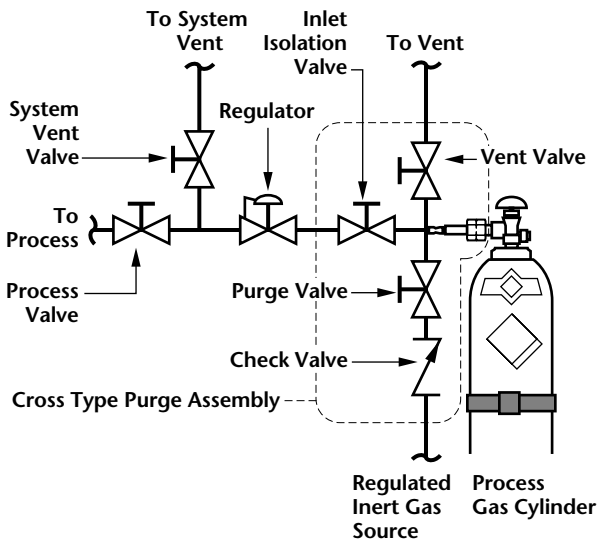

Figure 1- Typical Purge System with Cross Type Purge Assembly
Refer to Figure 1 (page 6) for a typical purge assembly installation.
5. Ensure that the system vent and process valves located downstream of the regulator are closed. (Figure 1, see page 6)